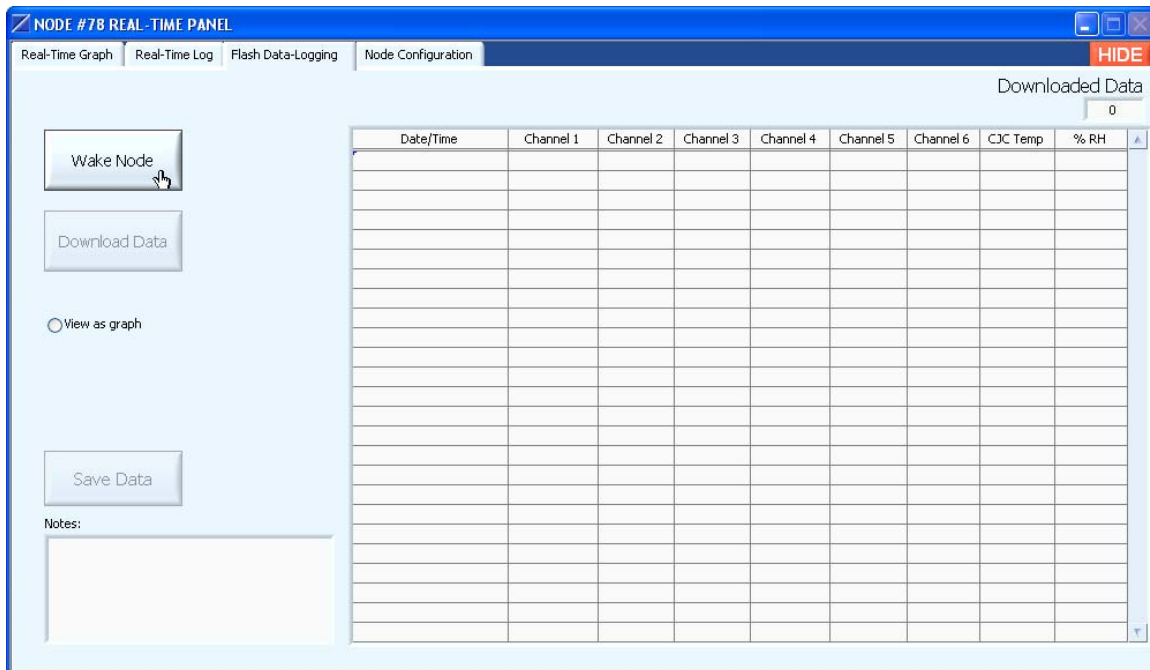

Figure 9
- Click the Flash Data-Logging tab and the screen in **Figure 9** will appear.